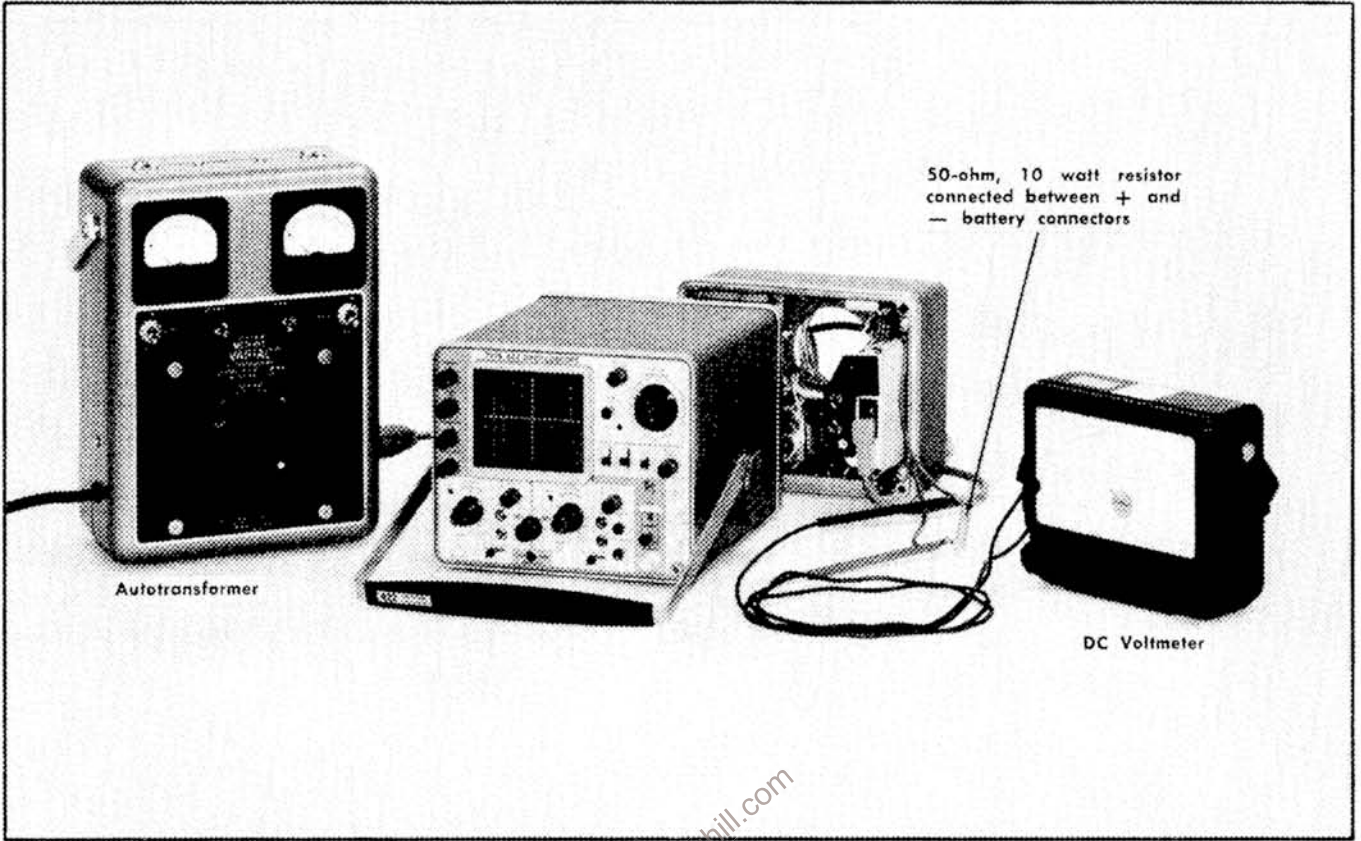

Fig. 6-10. Test equipment setup for checking Battery Charger current.
- a. Test equipment setup is shown in Fig. 6-10.